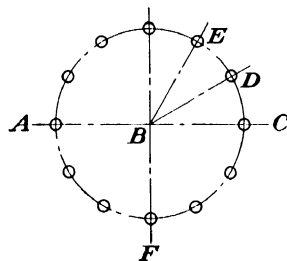

Fig. 107.
- Figure 107 shows the position of rivets on a circular patch. Calculate the number of degrees in
circular patch in Fig. 107 is a central angle. Name any other central angles in the same diagram.